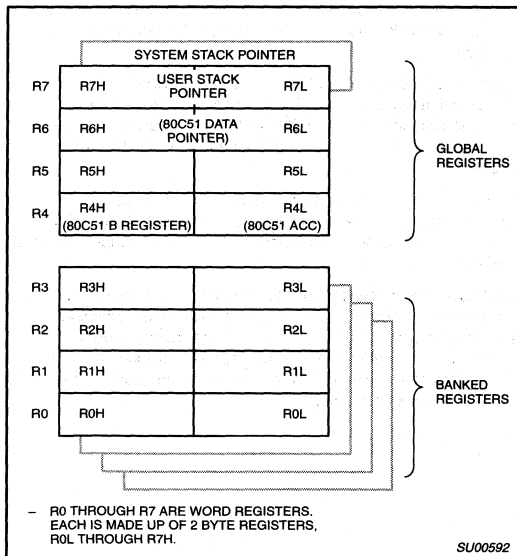

Figure 1. XA Register File
In translating 80C51 source code to the XA, particular registers are used to represent the accumulator (A) and the data pointer (DPTR). Although the XA can use any of the 14 general purpose byte registers in the register file as an accumulator, the 80C51 has some features that require the accumulator to be a specific byte register. These are primarily the parity flag and a few special instructions that intrinsically reference the accumulator in a way that could not be generalized in the XA. The latter are, specifically, instructions like: JZ, JNZ, MOVC A, @A+DPTR, MOVC @A+PC, and JMP @A+DPTR. Figure 1 shows the register file of the first XA derivative (the XA architecture can support some additional registers not implemented in the first part) and the registers used for 80C51 translation.